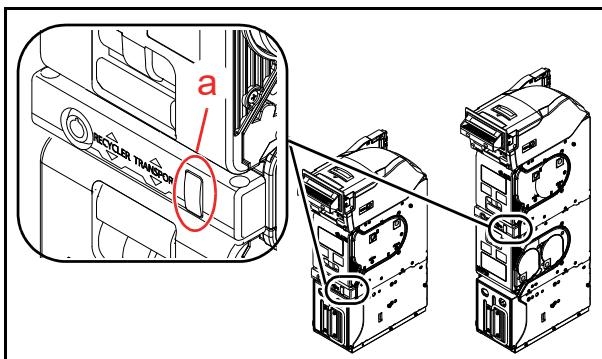

Figure 2-12 Collecting Banknotes 1
1. Press the Collect Button on the RT/RQ Unit (Figure 2-12 a).